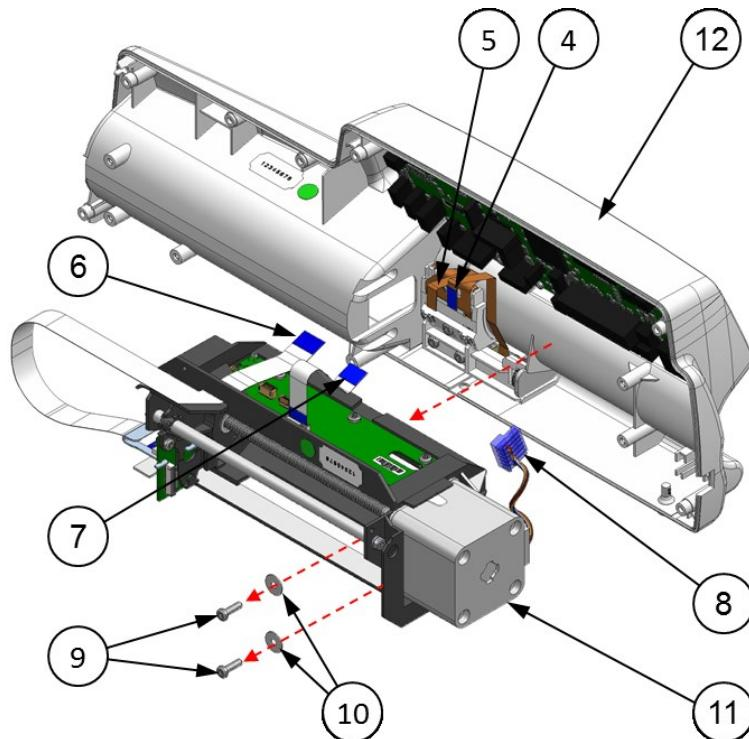

Fig. 47 Drive mechanism removal/installation
2. Disconnect the following cables: **Potentiometer foil** (4), **Microswitches foil** (5), **FFC ribbon 0,5x24x300** (6), **FFC ribbon 0,5x20x75** (7) and **Motor power plug** (8) as shown in **Fig. 47**.
3. Using the **TB-1** screwdriver unscrew two **3x10** screws for plastic (9) with **3,2x10x0,5** metal washers (10).
4. Using the **TA-5** screwdriver unscrew two **M3x12** screws (1) with **2,5x1** o-rings (2). Remove the part **Syringe flange clamp** (3).
- Remove the Drive mechanism (11) from the Front case (12) as shown in Fig. 47.
- Insert the Drive mechanism (11) to the Front case (12) as shown in Fig. 47.